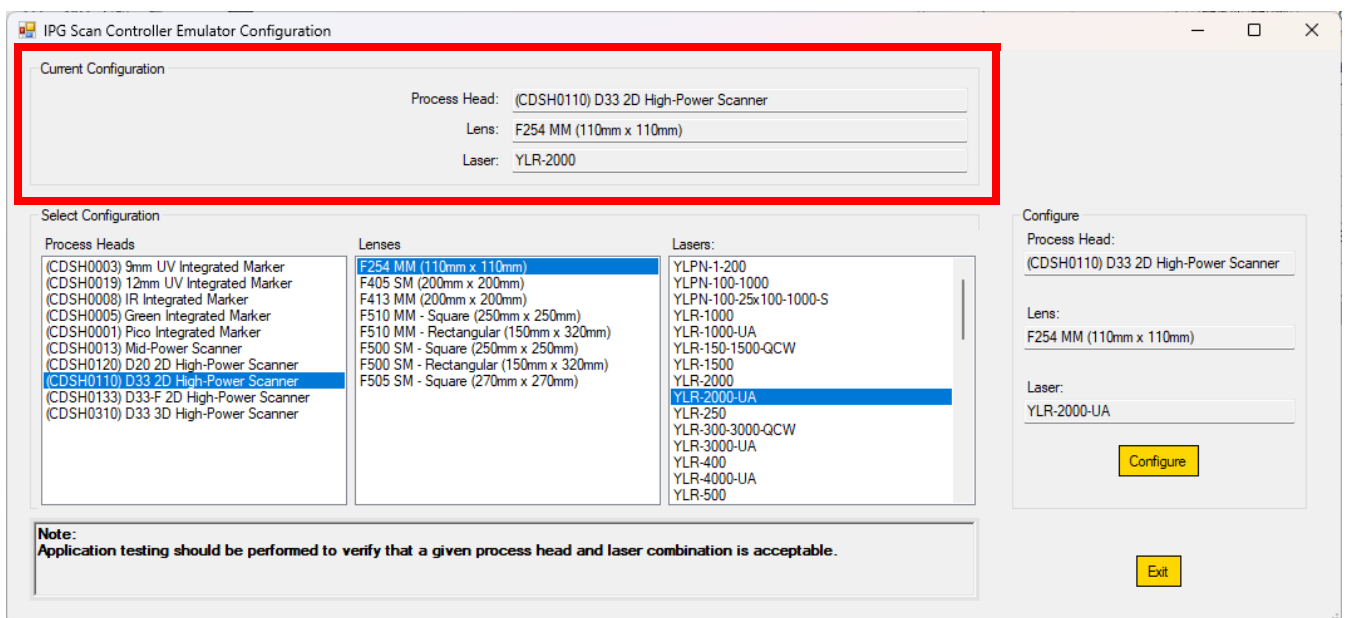

Figure 324: Emulator Configuration - Current Configuration
4. At the top section of the Emulator Configuration window, the current configuration of the Emulator is shown. In the example shown in Figure 324 (below), the Emulator is configured to have: